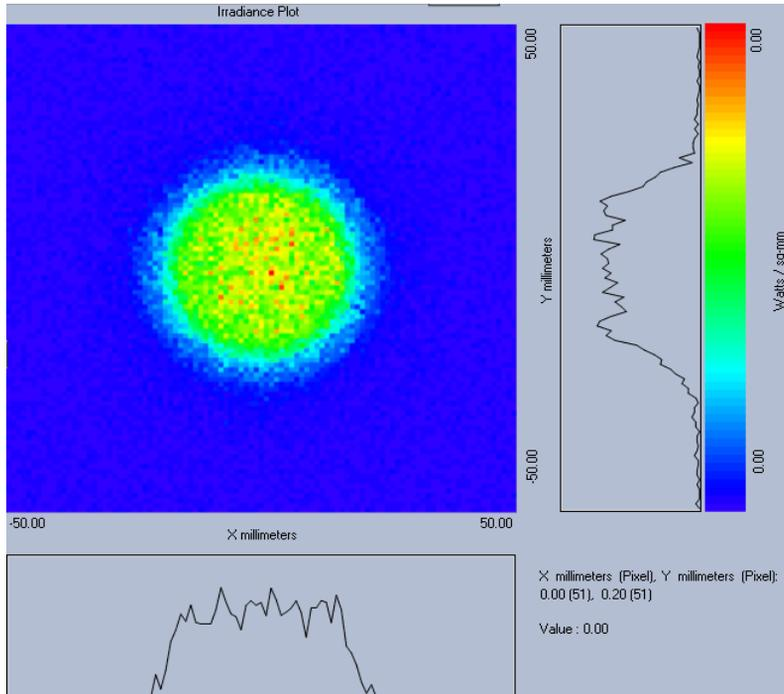

Figure 86 False color plot
- 9 Click the **Irradiance[*]** node on the Optics Manager to view the false color irradiance Plot, and move the cross hairs to view the irradiance value at different locations. See Figure 86.